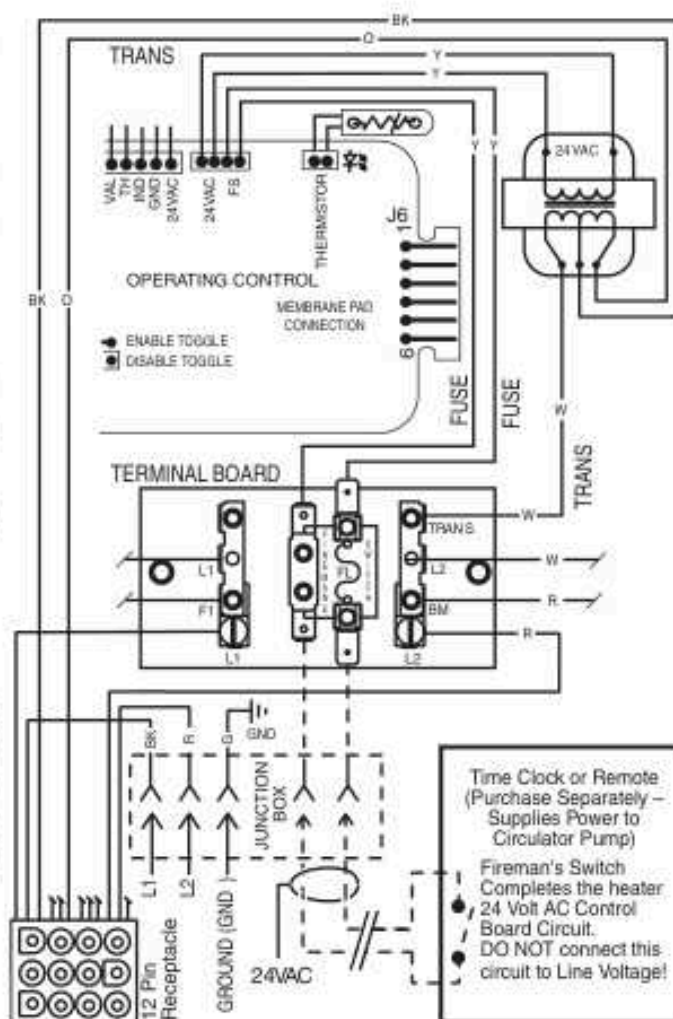

Figure 30.
- Connect wires between the Fireman's Switch terminals on the heater and the relay. Connect wires from the controller or timer to the Fireman's Switch. Controller, timer or relay should be sized to handle 24VAC at 0.5 Amp (because it will be completing the 24VAC control board circuit on the heater as shown in Figure 30). **DO NOT** apply line voltage to the Fireman's Switch terminals. Use 18 gauge wire with a minimum 3/64" (1.2mm) thick insulation rated for a temperature rise of at least 105°C.
- Connect wires between the control board terminals on the heater and the external relays, as shown in Figure 30. Use at least 2 relays per heater, to allow for an "OFF" setting on each heater mode. Select relays that can handle logic level switching. **DO NOT** apply line voltage to control board terminals.
- Move jumper (as shown on Figure 30) to enable external control and to disable the heater membrane pad's "Pool ON" and "Spa ON" buttons (the "OFF" key on the membrane pad remains functional).